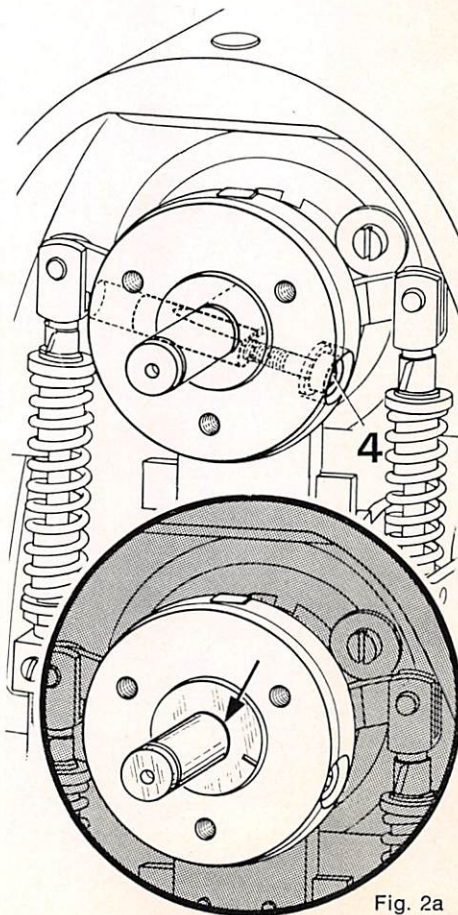

Fig. 2a
- 2.2. Turn screw **4** in the drive pulley out a few turns (Fig. 2a), then hit it on the head to release the cotter underneath.
- 2.3. Reposition the drive pulley on the arm shaft so that its face side is flush with the annular groove on the shaft (see encircled view in Fig. 2a).